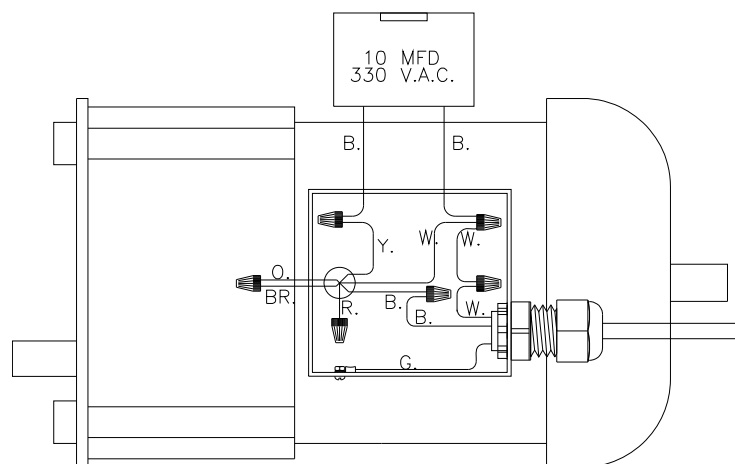

**Figure 3-4. Conveyor Motor Wiring**
See Figure 3-4.
1. Connect conveyor motor as per Figure 3-4.